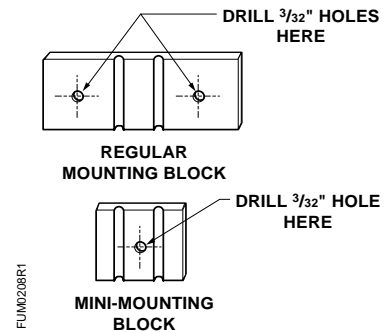

Figure 11. Screw Locations for Mounting Blocks.
- Drill one 3/32-inch hole on the outside of each of the linkage grooves, through the mounting block and into the sash frame. See Figure 11.
- Drill one 3/32-inch hole in between the two linkage grooves, through the mounting block and into the sash frame. See Figure 11.